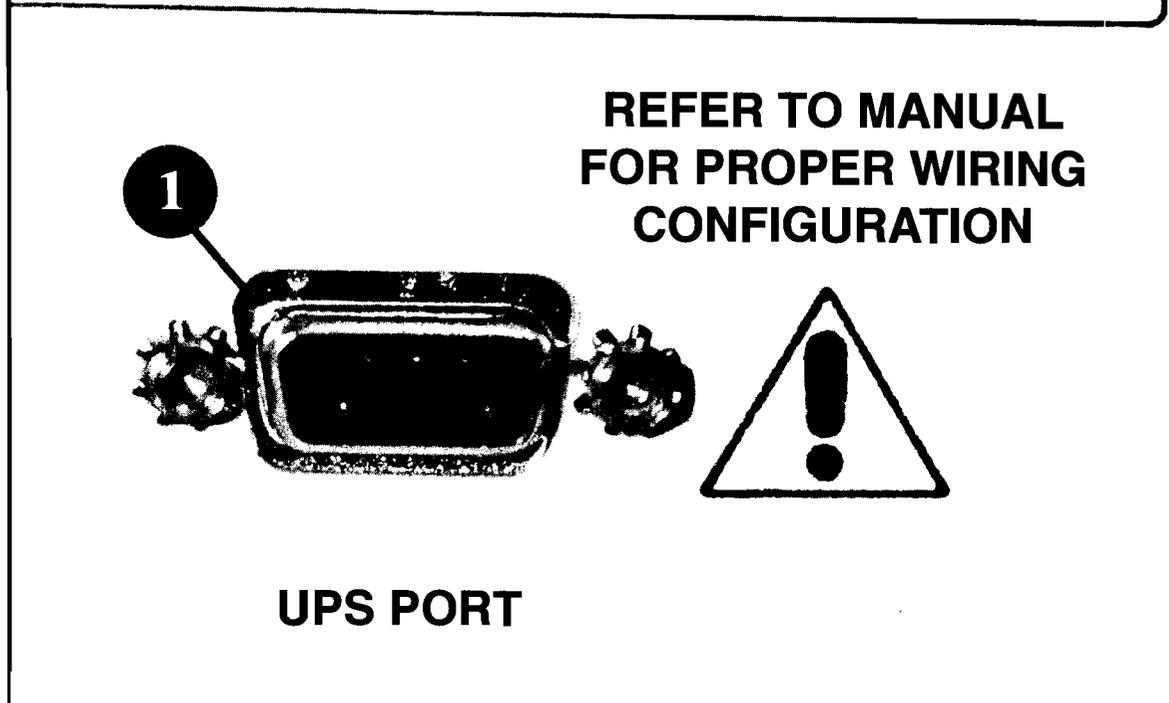

Figure 2-5. UPS port Connector
- Refer to Figure 2-5. Connect the RS-232 cable to the **UPS Port** ① connector on the back of the UPS. Secure the RS-232 cable to the connector by tightening the small mounting screws on each side of the connector with your fingers or a small blade screwdriver.